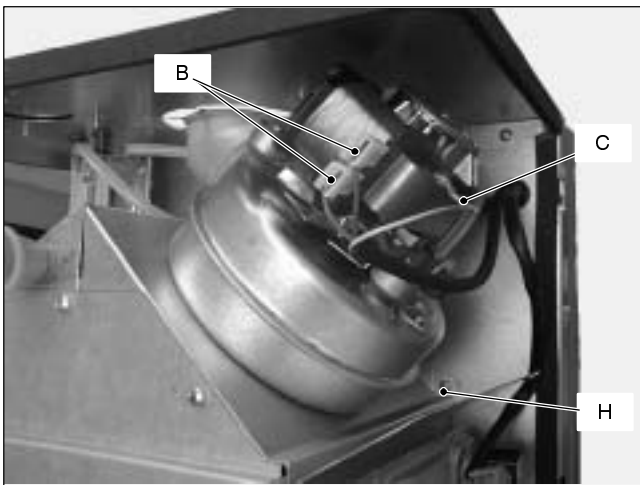
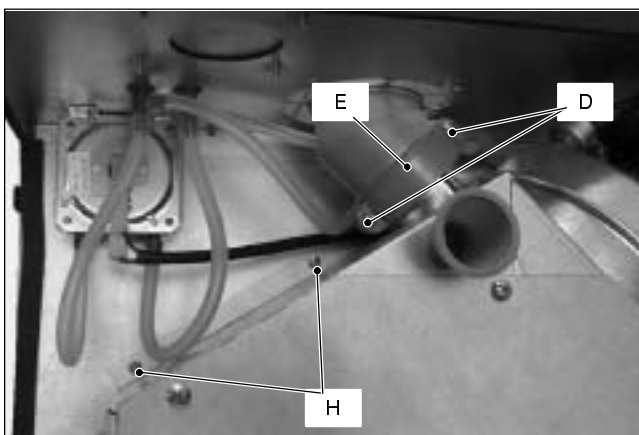

Fig. 65
Fig. 69
- 2 Disconnect the connectors *B* (Fig. 65) and measure the electrical resistance of the motor that has to be about:
- 2 Disconnect the connectors *B* and the earth connection *C* (Fig. 65).
- 4 Unscrew the screws *D* and remove the clamp *E* (Fig. 69).
- 5 Unscrew the screws *H* (Fig. 65 and Fig. 69), and remove the flue hood with the Fan.